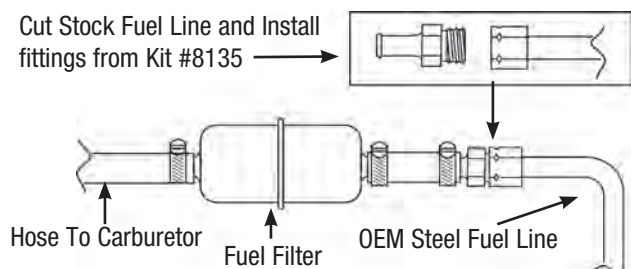

Fig. 3 - Fuel Line Kit #8135 Installed on Stock Steel Line
2. **The stock steel fuel line must be modified** to accommodate a rubber fuel hose as the stock steel line will not connect directly to the Performer Series Carburetor. The use of the Edelbrock Universal Fuel Line Kit #8135 is highly recommended. #8135 contains a fuel filter, rubber fuel hose, and fittings to adapt to 5/16" or 3/8" stock steel fuel lines (**See Fig. 3**). **NOTE: #1405 and #1406 carburetors are supplied with a fuel filter. If using #8135 on these carburetors, the filter included in #8135 can be saved for later use.**